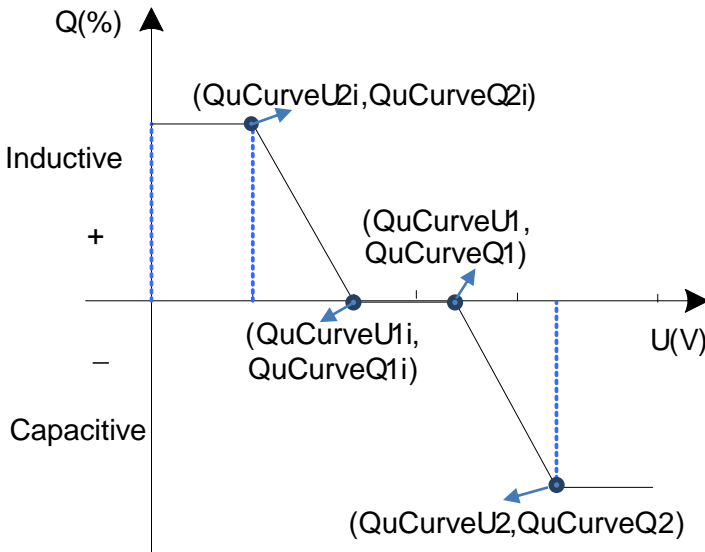

Figure 6-16 Q(U) Curve Mode
- 3. Q(U) Curve:** Q(U) curve mode. Using the curves to set the reactive power setpoints (See Figure 6-16). The reactive power compensation changes according to the grid voltage. These functions are only available for IEEE-1547 and Rule21 grid standards.